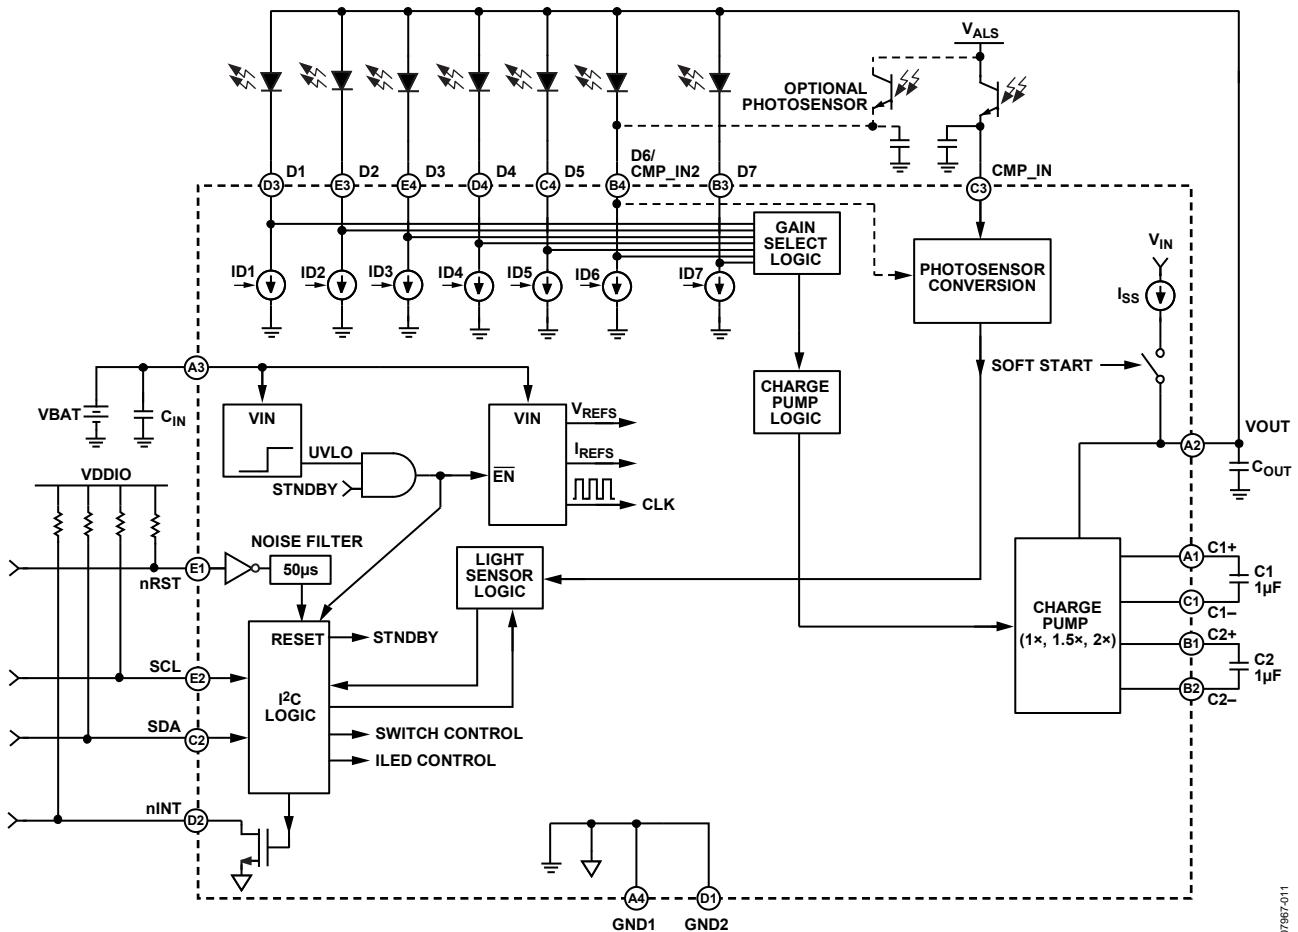

Figure 26. Detailed Block Diagram
By charging the capacitors in different configurations, the charge, and therefore the gain, can be optimized to deliver the voltage required to power the LEDs. Because a fixed charging and discharging combination must be used, only certain multiples of gain are available. The ADP8860 is capable of automatically optimizing the gain (G) from 1 $\times$ , 1.5 $\times$ , and 2 $\times$ . These gains are accomplished with two capacitors (labeled C1 and C2 in Figure 26) and an internal switching network.